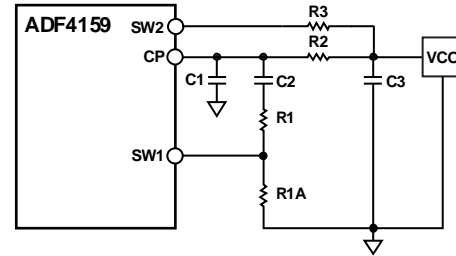

Figure 52. Fast-Lock Loop Filter Topology—Topology 1
- Divide the damping resistor (R1) into two values (R1 and R1A) that have a ratio of 1:3 (see Figure 52).